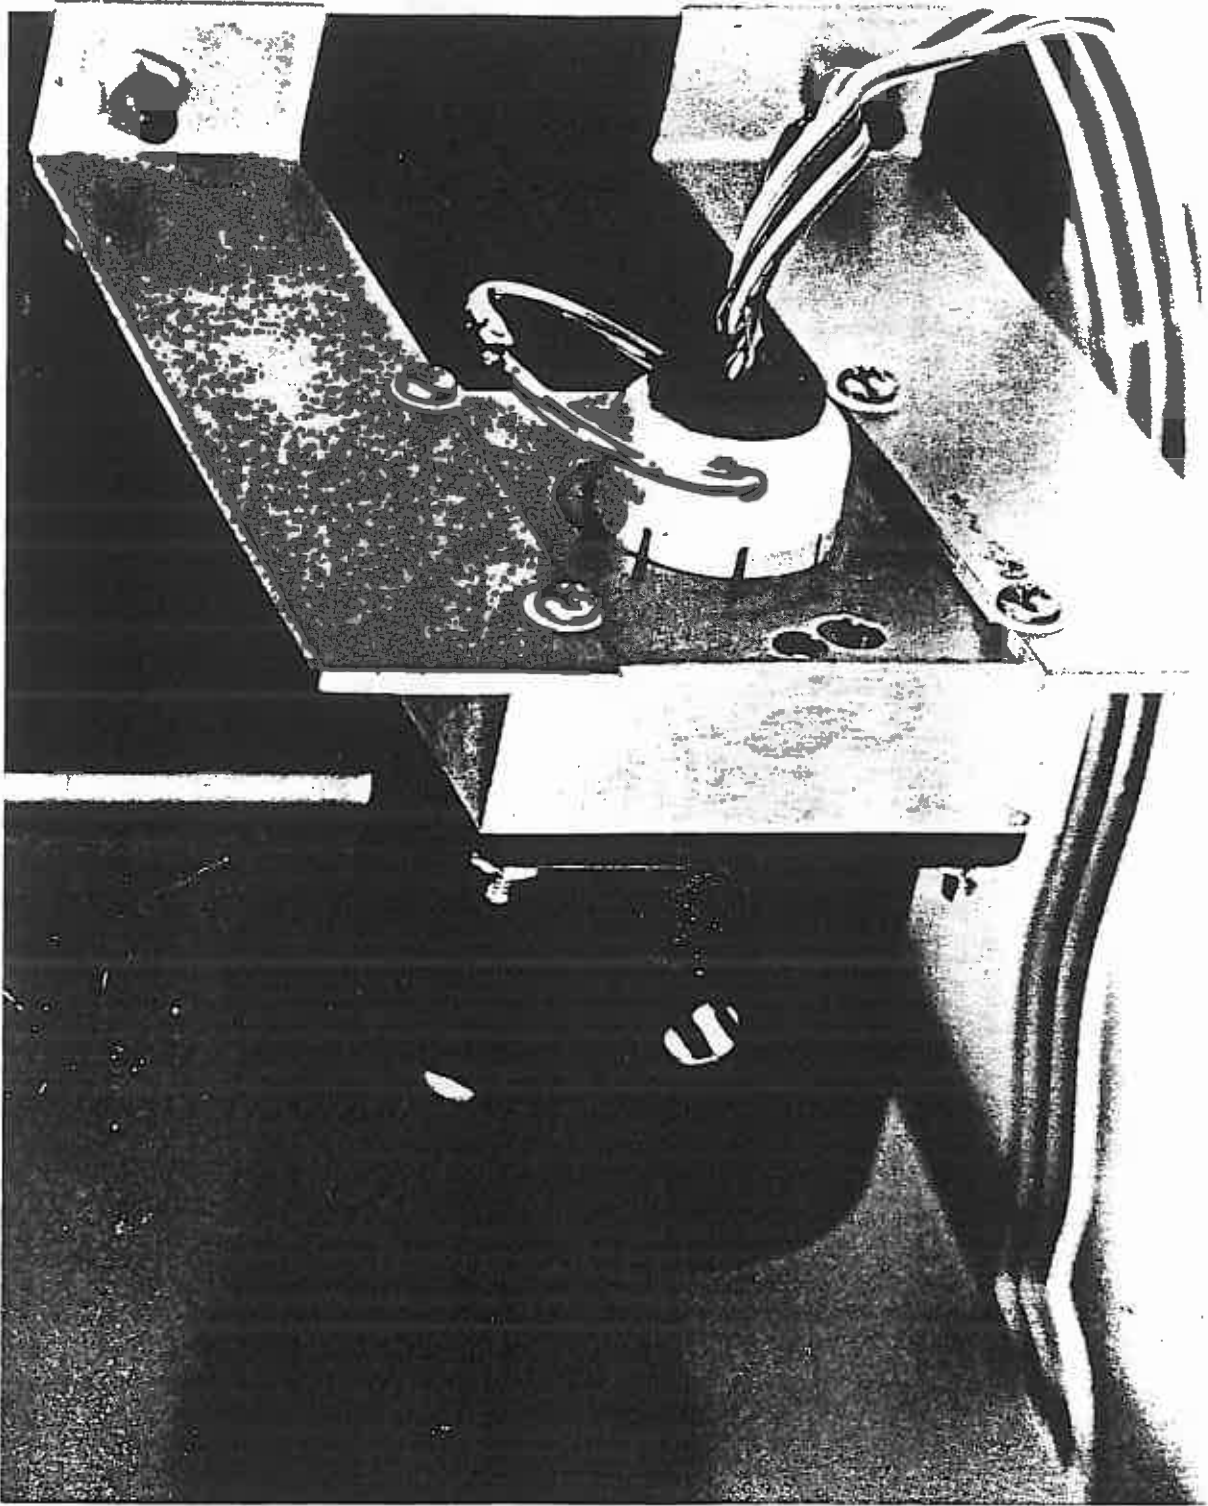

Figure O6 — Panel Mounted 660 Control Unit Rear View Showing Sensor Mounting Detail
10. Mount the two Sensor support brackets to the Sensor as shown in Figure O6. The Sensor may be rotated as desired for ease of plumbing.
11. Attach the free end of the hinge to the mounting holes of the panel or rack with 1/4-20 hardware, picking up the two Sensor support brackets as shown in Figure O6.